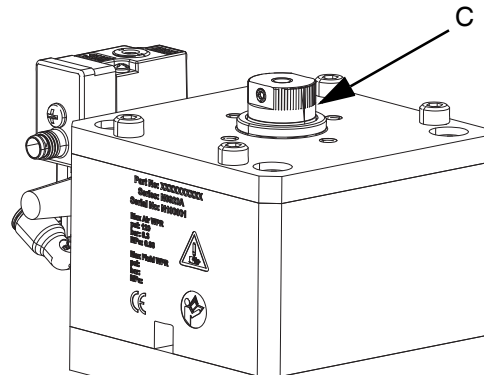

FIG. 5
The Adjustment Nut (C) on the top of the valve can adjust the distance the dispense valve will open. This restricts the flow of material through the tip and seat. See FIG. 5.
1. Turn the Adjustment Nut (C) clockwise until the valve is held closed. See FIG. 5.
2. Slowly open the Adjustment Nut (C) and then cycle the air pressure until the desired flow is reached.